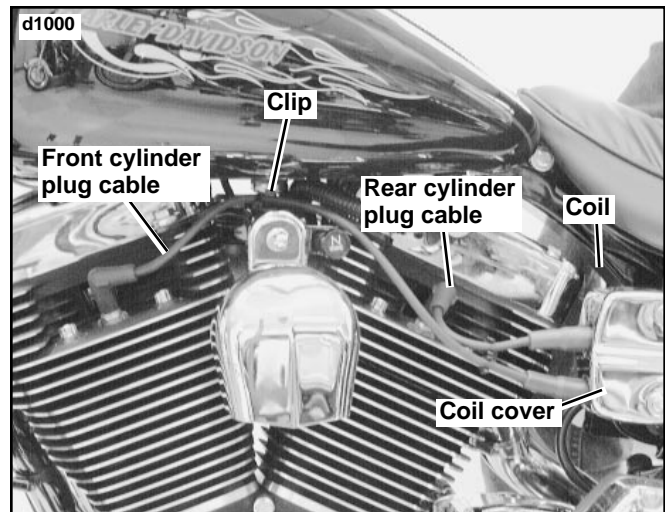

Figure 1. Dyna Spark Plug Cable Routing
2. See Figure 1. Disconnect spark plug cables from coil and spark plugs.
9. See Figure 1. Replace clip securing front cable to horn bracket.